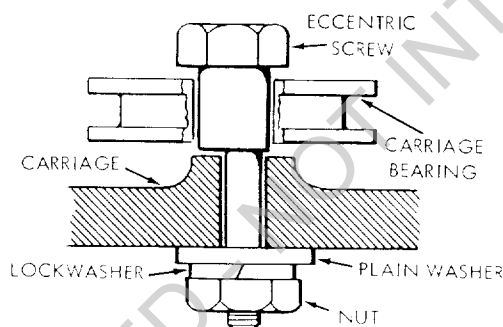
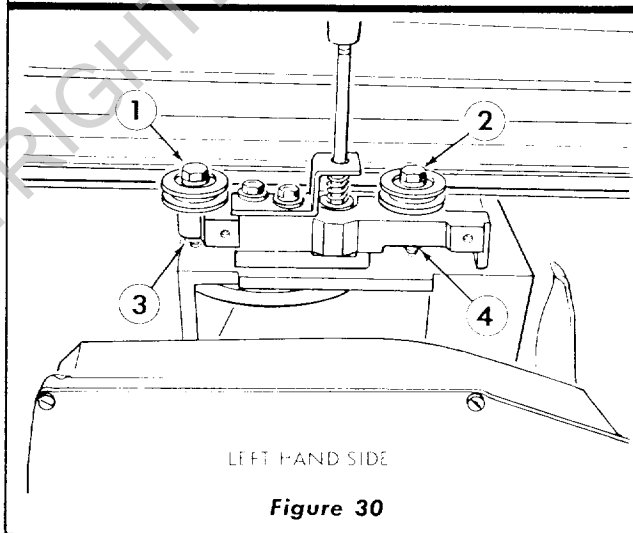

Figure 29
Figure 30
To test for looseness in carriage ball bearings (between bearings and tracks on radial arm), lock yoke clamp, grasp the motor and carriage assembly firmly and apply a firm rocking motion. If looseness exists, the two bearings on left-hand side of radial arm must be adjusted. Two bearings on right-hand side of arm are attached to carriage with regular hex-head screws and are not adjustable. The two bearings on left-hand side of arm are attached to carriage with eccentric screws. (See figure 29.)
- Loosen nuts (3 and 4, figure 30) just enough to permit eccentrics to turn. (See figure 29.)
- Turn adjusting screws (1 and 2, figure 30) a partial turn left or right as required to take up looseness.
- Hold head of screws (1 and 2, figure 30) in position established in preceding step and tighten nuts (3 and 4) on underside of carriage.